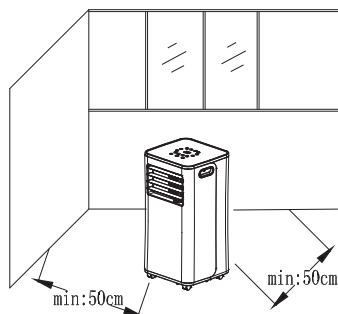

Fig. 1
- The product must be free with a gap of at least 50 cm to other objects or obstacles. The air outlet openings must be directed into the room. See Fig. 1.